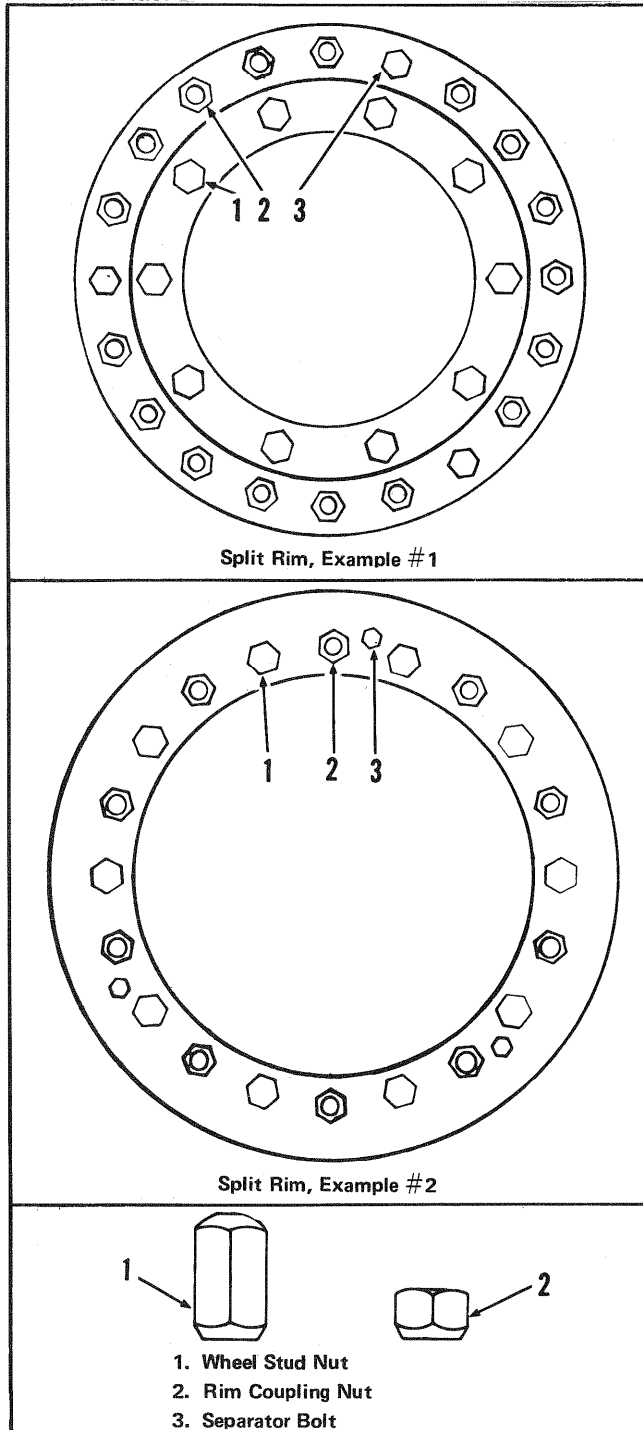

Fig. 12-3 Split Rims
5. Remove the rim stud nuts. Refer to Fig. 12-3 for the correct location of the rim stud nuts.
NOTE: Example 1, in Fig. 12-3 visually shows the Rim coupling nuts facing the outside of the rim. The current rims of this style have the coupling nuts facing the inside of the rim. Both styles have the wheel stud nuts facing the outside of the rim.